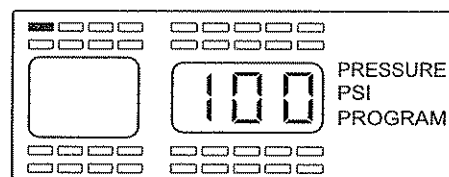
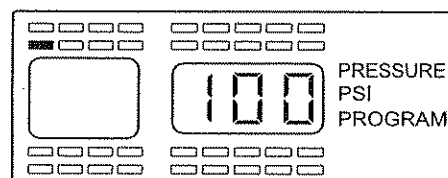

Figure 2-7
Figure 2-8
10. Once you have completed the sensor programming sequence for all tires, press the **PROC** button momentarily to move to the next step, this will be the Base Line Pressure Programming. The monitor will display as shown in Figure 2-7. If you are completely done with all of the programming operations you can press the **PROC** button for 5 seconds and the monitor will return to the normal mode of operation. This can be done at the end of any section of the program mode when the programming is completed.
NOTE: To enter directly into this program mode you will need to press the **PROC** button for 5 seconds until the "PROGRAM" is displayed. Then press the **PROC** button again briefly to enter this mode (see Figure 2-7 for screen display).
The monitor should now be displaying the wheel positions available to program, the words: PRESSURE, the unit of measure (PSI, Bar, or kPa) and PROGRAM will be displayed as well as the baseline pressure for the selected wheel position (see Figure 2-7). The positions that already have sensors programmed to the monitor will be highlighted at this time (see Figure 2-8). You can program the air pressure from 5 PSI to 188 PSI, depending on your needs. Each wheel position can be set with a different baseline air pressure if this is what is needed. The monitor has been pre-programmed for 100 PSI at